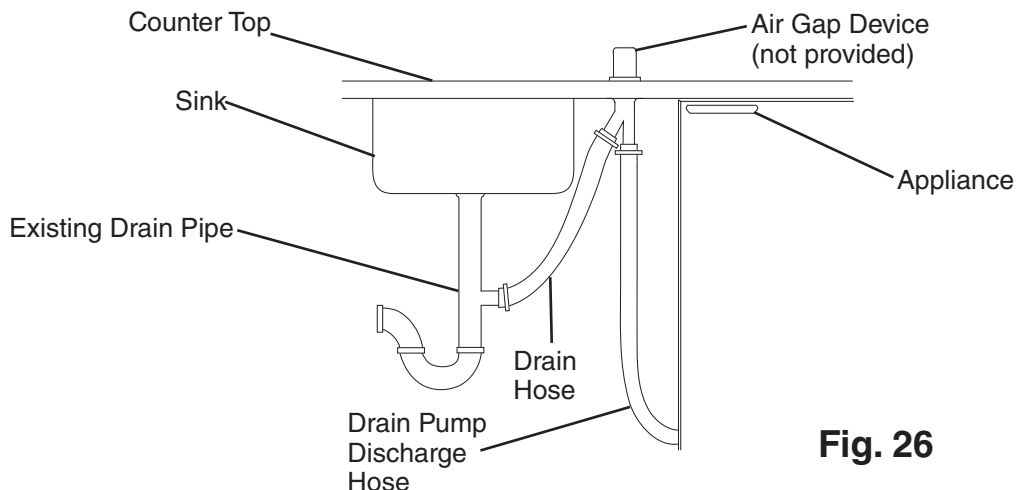

Fig. 26
c) **Existing Drain Pipe Installation:** When connecting to a suitable existing drain pipe (sink), the drain line must be installed in accordance with applicable national, state, and local codes and regulations. **IMPORTANT! Confirm with local and state plumbing codes before connecting to an existing drain pipe. An air gap device (not included) may be required. See Fig. 26. NOTICE! Be sure there is sufficient extra tubing for the appliance to be pulled out for service.** Do not allow traps or kinks in the hose that will restrict water flow. The maximum discharge hose length is 20 feet (6 m). The maximum discharge hose lift height is 10 feet (3.05 m). Cut excess hose as needed.